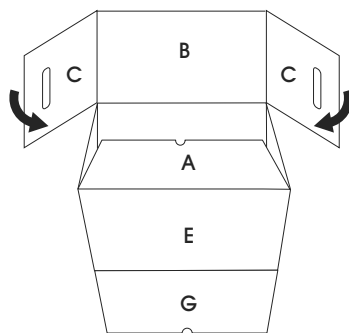

Figure 4
4. Fold left and right side flaps (C) toward the exterior bottom panel (B). (See Figure 4)